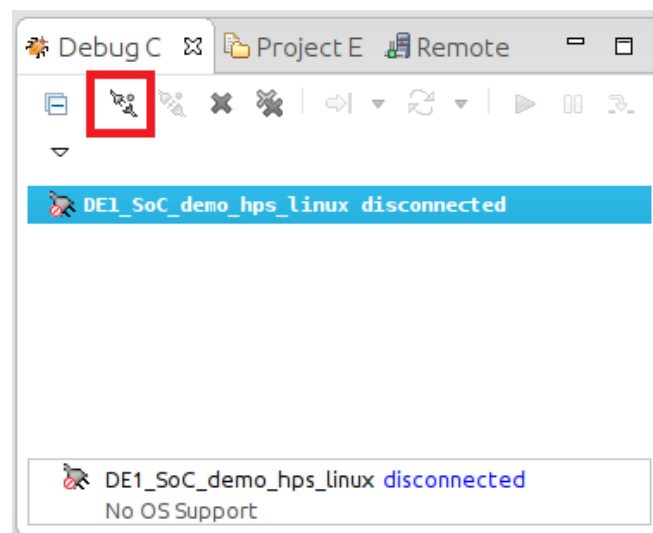

Figure 8-65. Debug Control View
27. In the "Debug Control" view, click on the "DE1_SoC_demo_hps_linux" entry, then click on the "Connect to Target" button, as shown on Figure 8-65. The debugger will start an SSH connection to the Linux distribution running on the DE1-SoC and will automatically transfer our binary file and wait at our application's "main()" function.